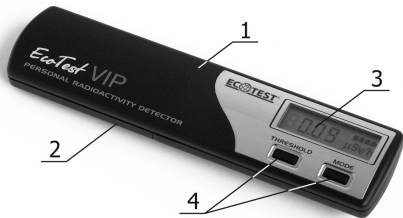

Figure 1 – Main view of the detector
The detector is designed as a flat oblong plastic body with rounded corners. The body (Figure 1, 2) consists of the upper (1) and the lower (2) covers. The indication panel (3) is located in the right part of the upper cover (1); two buttons (4) of control are located to the left and to the right under the panel.